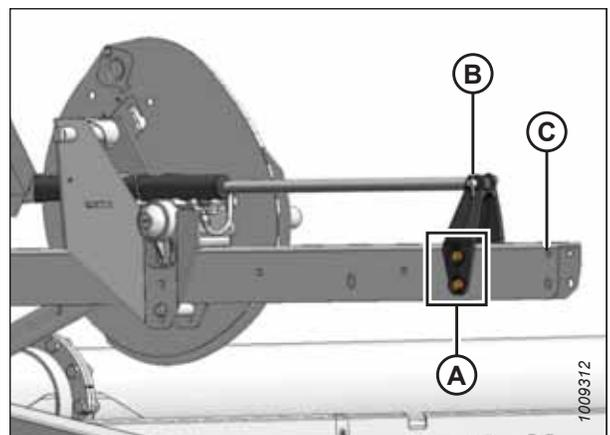

Figure 3.41: Rearward Position
- Rearward position, refer to Figure 3.41, page 65
8. Reinstall the four bolts (A) to secure bracket to reel arm at new position.